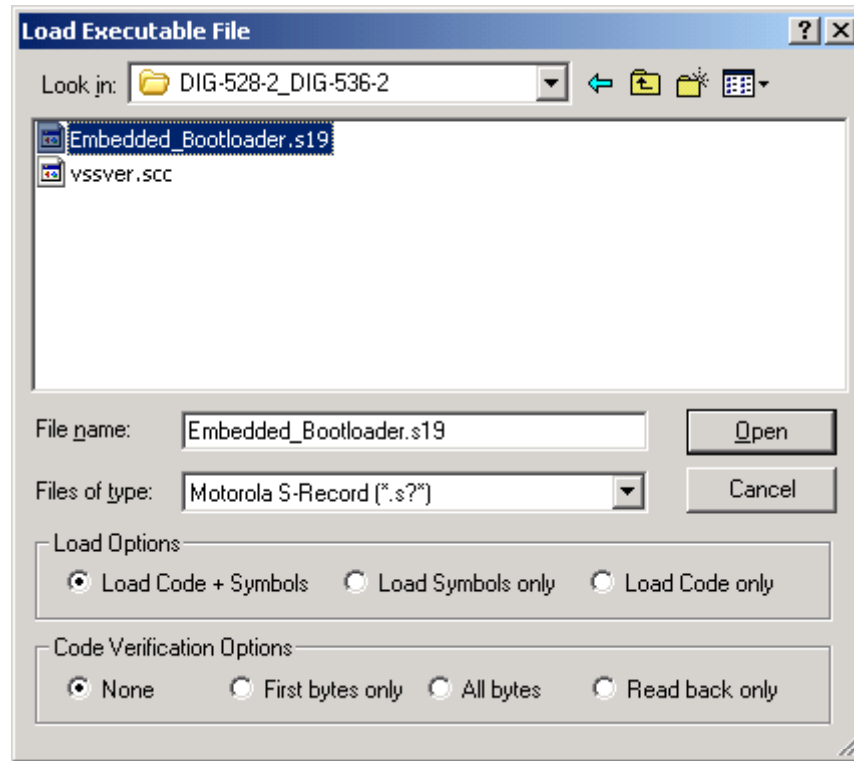

Figure 14 Load Executable Window
4. Click on “Load Application” under the “File” menu to open the “Load Executable File” window. Specify application file to program in the “Load Executable File” window as shown in Figure 14. Select “Motorola S-Record (*.s19)” using the “Files of type:” drop down menu. Navigate to the folder where a copy of the Embedded Bootloader is located. Select the “Embedded Bootloader.s19” file and click the “Open” button.